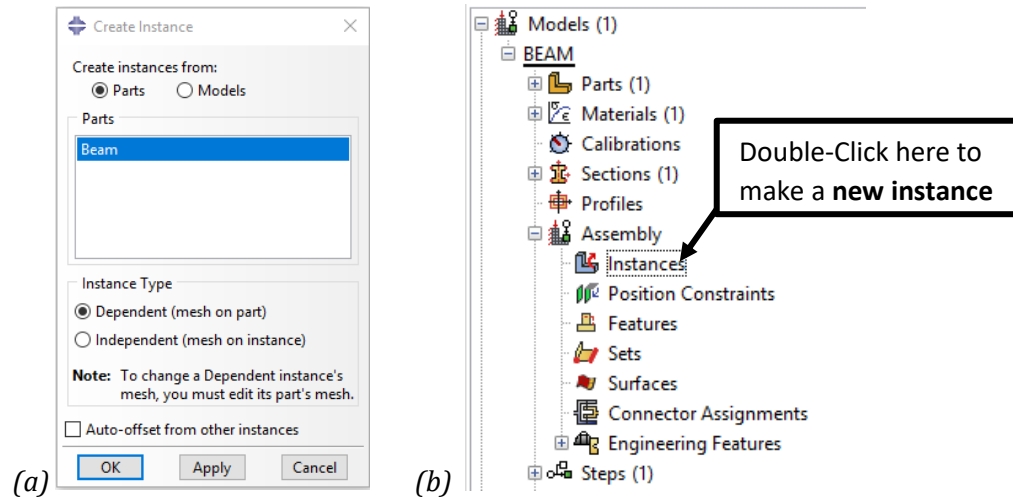

Figure 1-15 – (a) The Create Instance dialog box and (b) The Model Tree.
1. In the **Model Tree**, expand the branch for the **Assembly** of the model **BEAM** and double-click **Instances** to create a new part instance as shown in Figure 1-15(b). Abaqus/CAE switches to the Assembly module, and the **Create Instance** dialog box appears. See Figure 1-15(a).